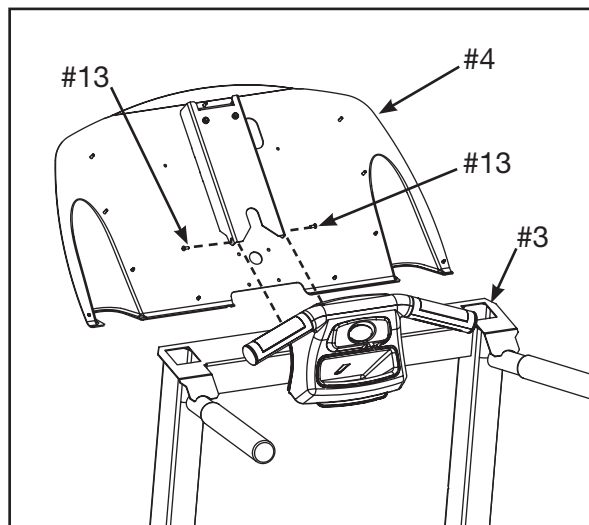

Figure 5
- B.** Place the console back (#4) in the correct position on the upright assembly (#3). See Figure 5.
- C.** Using a Phillips screwdriver install two screws 8-32 x .38" (#13) to hold the console back (#4) in place. Do not fully tighten at this time. See Figure 5.